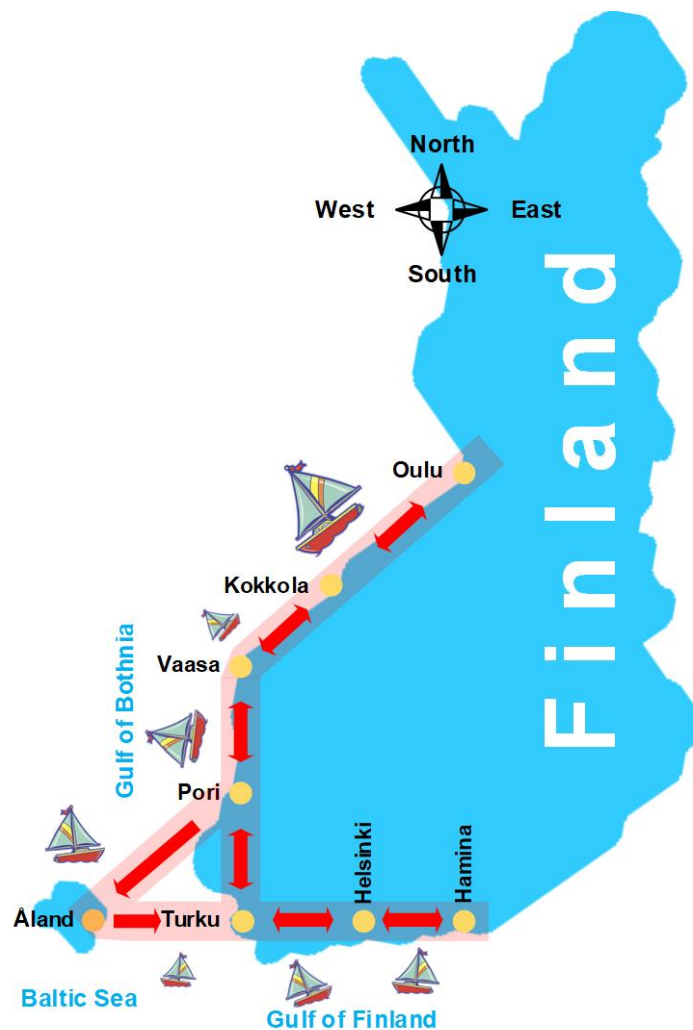

Fig. 1. Map of tour routes
3. The boats should follow the map routes, some one-directional and bi-directional routes can be found on the map (Fig. 1).